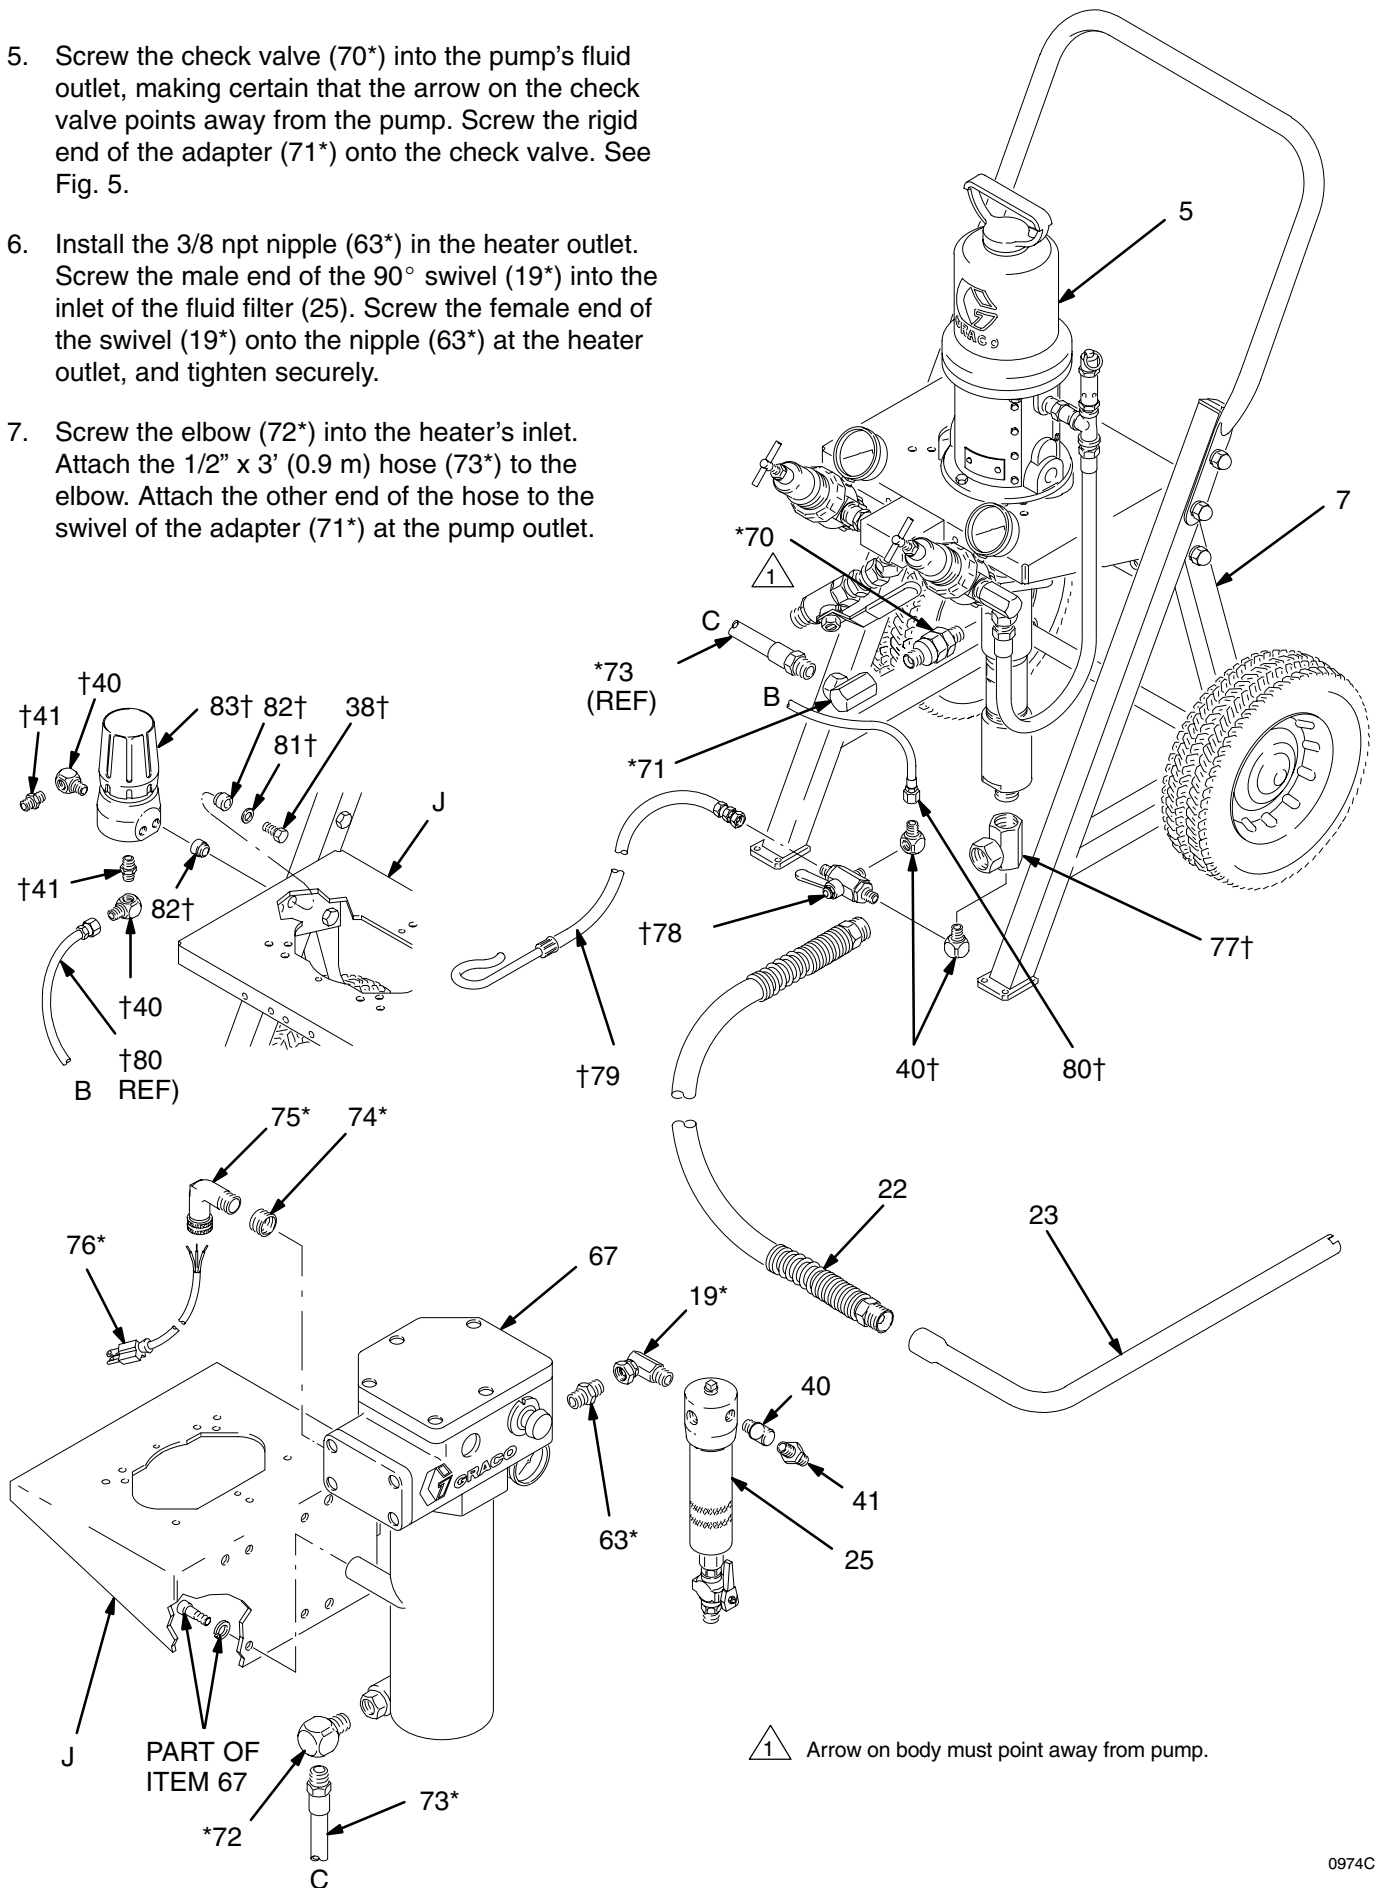

Fig. 5
**NOTE:** Mount the heater (67) on the back of the cart as follows. Two people are required to perform this operation.
3. Align the heater (67) mounting posts with the four holes at the back of the cart's pump support bracket (J). See Fig. 5. Secure the heater to the bracket with the M8 x 1.25 screws and lockwashers supplied with the heater.
5. Screw the check valve (70\*) into the pump's fluid outlet, making certain that the arrow on the check valve points away from the pump. Screw the rigid end of the adapter (71\*) onto the check valve. See Fig. 5.
6. Install the 3/8 npt nipple (63\*) in the heater outlet. Screw the male end of the 90° swivel (19\*) into the inlet of the fluid filter (25). Screw the female end of the swivel (19\*) onto the nipple (63\*) at the heater outlet, and tighten securely.
2. Screw the rigid end of the manifold (77†) onto the pump intake, and attach the suction hose (22) to the swivel end of the manifold. See Fig. 5.
3. Place a washer (81†) and insulator (82†) on each of the screws (38†). Insert the screws through the mounting holes on the left side of the pump support bracket (J), working from the inside. Place another insulator (82†) on each of the screws on the outside of the bracket. Use the screws to attach the back pressure regulator (83†) to the pump support bracket.